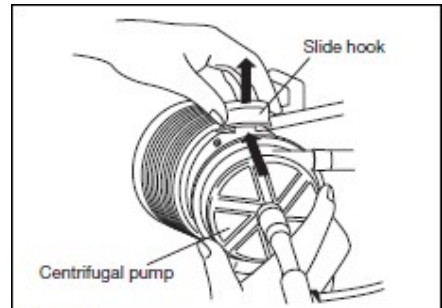

Figure 14
15. Pulling up the slide hook of the drive motor, remove the centrifugal pump from the drive motor (Figure 14).